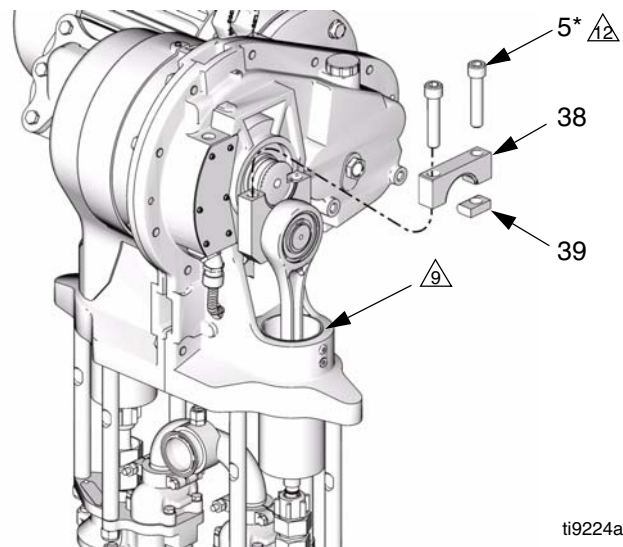

FIG. 6. Install Crank Arm Cap
4. Slide the piston (9*) and connecting rod (7*) into the cylinder (2).
5. Position the crank arm (4) to engage the output shaft (OS), and rotate it to the bottom of the output shaft.
6. Place a clean rag over the top of the slider cylinder (2) to prevent debris from falling into the slider assembly during reassembly.
7. See FIG. 6. Apply antiseize lubricant to the threads of the cap screws (5*). Install the key (39), crank arm cap (38), and cap screws (5*), oriented as shown. While the gap-side screw is still loose, torque the key-side screw to 210-230 ft-lb (283-310 N•m). Then torque the gap-side screw to 210-230 ft-lb (283-310 N•m).